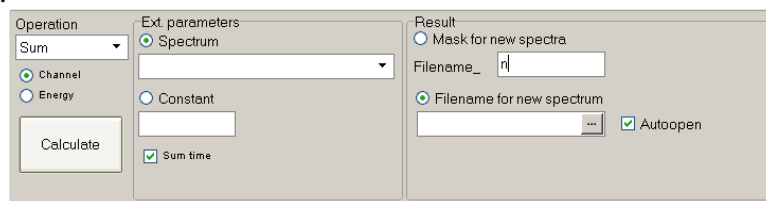

Figure 55. **Math. operations** tab content
The **Math. operations** tab consists of 3 blocks (Fig.55) and is intended for summing and subtracting spectra.
- select 'Sum' in the dropdown list of the **Operation** field (Fig.55);
- in the **Ext.parameters** block, select **Spectrum** as shown on Fig. 55, the field with the dropdown list should be empty;
- in the **Ext.parameters** block select **Spectrum** as shown on Fig. 55;